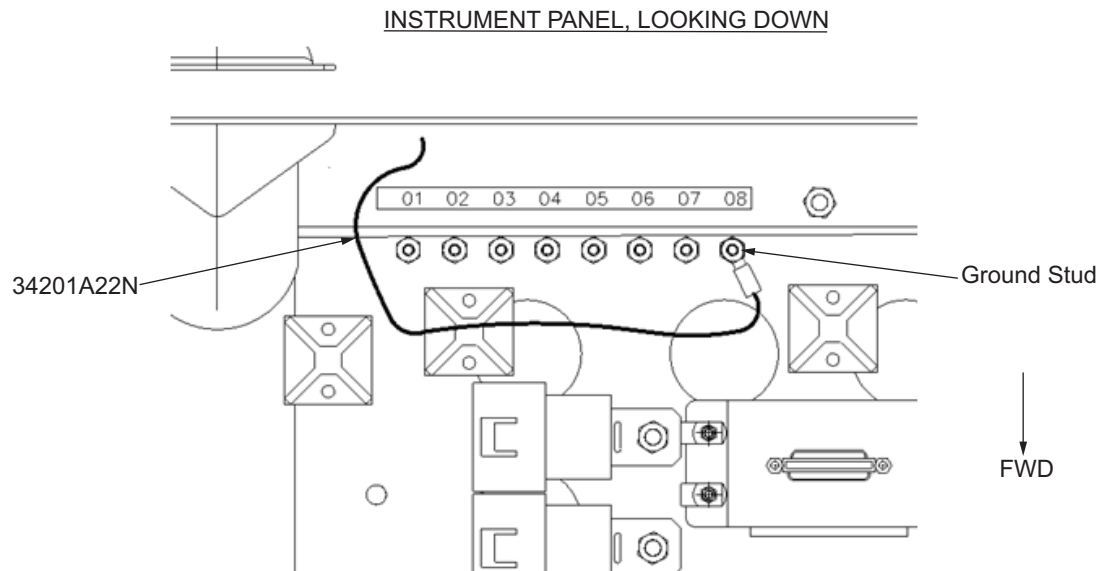

Figure 16
- 10.21 Connect the wire 34201A22N to ground stud #8 and secure with the supplied cable ties (P/N MS3367-4-9). Refer to Figure 16.